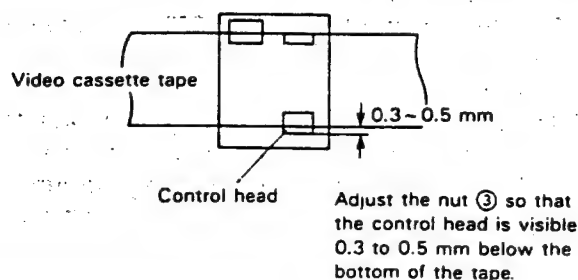

Figure 1-19.
•Replacement (See Figs. 1-19 and 1-20.)
- Loosen the tilt adjusting screw ⑥ by using Phillips screwdriver.
- Remove the azimuth adjusting screw ⑤ with a Phillips screwdriver.
- Remove the A/C head screw ④ with a Phillips screwdriver, paying attention to the spring ⑦ between the A/C head screw ④ and A/C head pedestal.
7. Play an alignment tape and roughly adjust the height of the A/C head, visually, by turning the A/C head adjusting hexagon nut ③ with the box driver (JiGDRIVER110-7) until the tape comes to the position shown below. (See Fig. 1-19.)